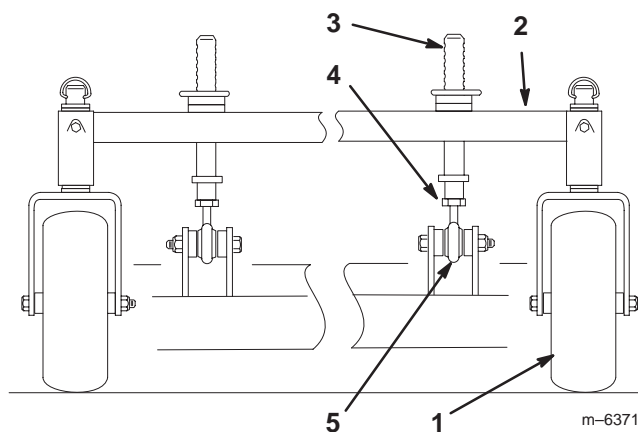

Figure 72
1. To change the front-to-rear pitch, the front height-of-cut posts can be adjusted (Fig. 72).
2. To raise the front of the deck, loosen jam nut and rotate the front pin clockwise (Fig. 72).
3. To lower the front of the deck, loosen jam nut and rotate the front pin counter clockwise (Fig. 72).
6. Tighten the jam nuts (Fig. 72).